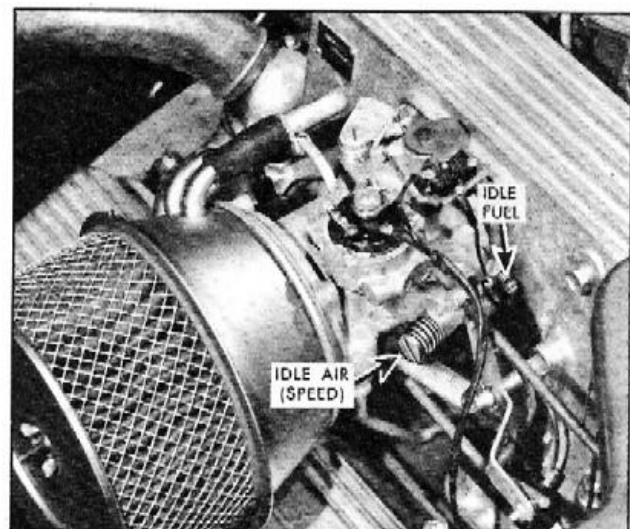

Fig. 3 Adjusting Idle Mixture and Speed
Before attempting to adjust the idle speed and mixture, allow the engine to warm-up so that the throttle tab is completely off of the fast idle cam. If these adjustments are being performed after servicing the Fuel Injection unit, fully close both the idle air and idle fuel adjusting screws, Fig. 3, and then back off each screw approximately two (2) turns as an initial setting for warm-